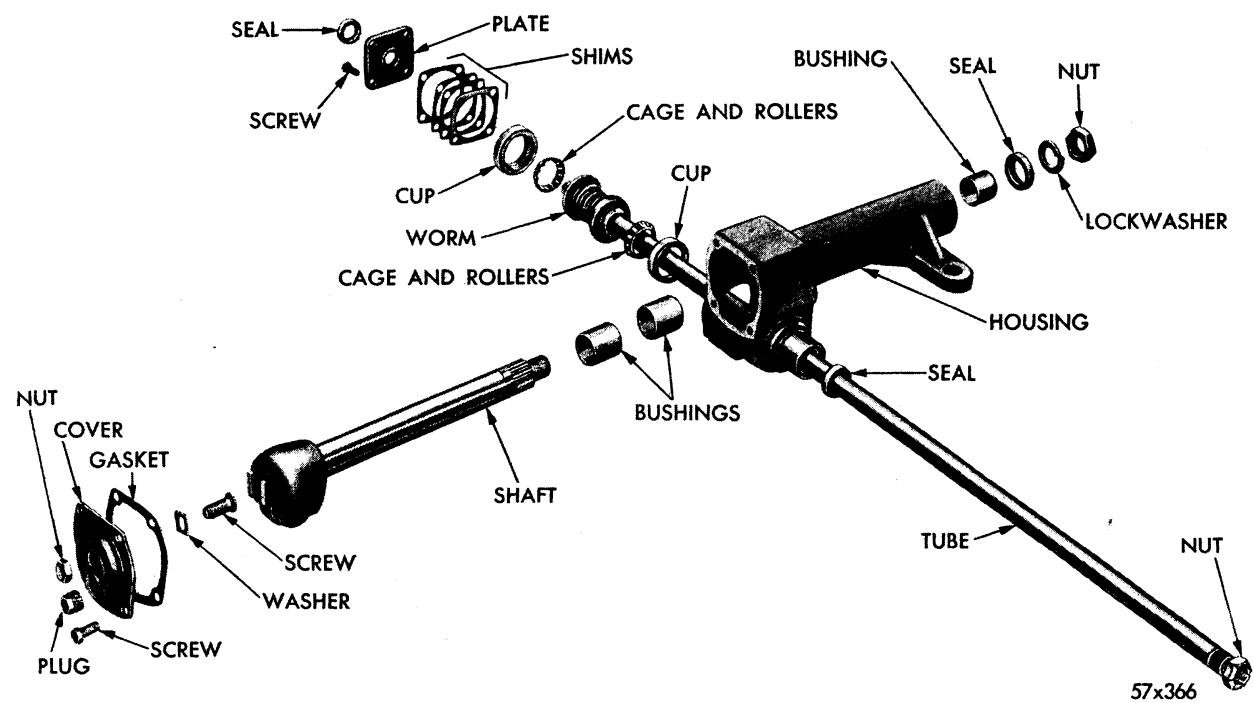

Fig. 1—Steering Gear Assembly (Disassembled View)
A modified three-tooth roller and worm steering gear assembly (Fig. 1) is used in the Chrysler 1958 cars, equipped with manual steering. The steering gear is mounted inboard of the frame and can be serviced without removal from car.
3. REMOVAL OF MANUAL STEERING GEAR ASSEMBLY (Figs. 1, 2 and 3)
b. Disassembly Steering Gear Assembly (Fig. 1)
c. Reassemble Steering Gear Assembly (Fig. 1)